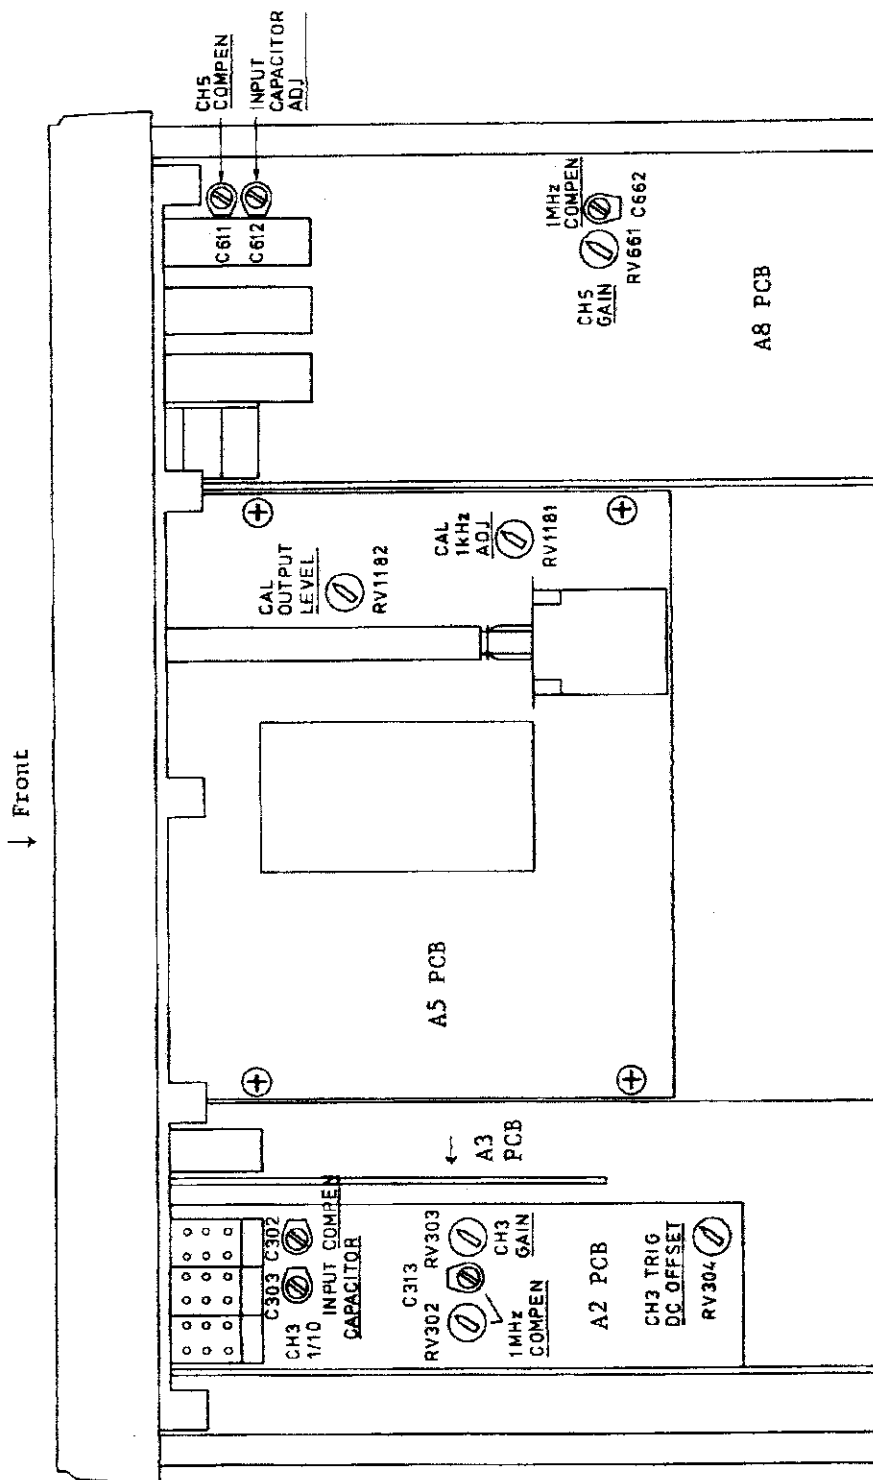

Figure 7-10 (Bottom view)
In a similar manner as is the case for "Adjustment of input ATT of CH1 and CH2," adjust C305 so that the 1/1 input capacitance becomes 20 pF  $\pm$  2 pF. Next, adjust input capacitance compensation capacitor C303 and phase compensation capacitor C302 of 1/10 ATT. (See Figure 7-10.)
For this adjustment, adjust CH3 TRIG DC OFFSET (Figure 7-10, RV304) in a similar manner as is the case for "Adjustment of CH1 TRIG DC OFFSET."
- (1) Connect the CALIB output (43) to a frequency counter.
- (2) So adjust the CAL 1 kHz ADJ (Figure 7-10, RV1181) that the frequency counter 1 kHz.
- (1) Set at 200 mVp-p the signal of the generator used for "calibration of sensitivity" of Section 7.5. Apply this signal to the CH1 input terminal.
- (2) Display the signal on the screen with an amplitude of 8 DIV by adjusting the VOLTS/DIV switch (23) and VARIABLE knob (22).
- (3) Apply the 200 mV CALIB output to the CH1 input terminal. So adjust the CAL OUTPUT LEVEL (Figure 7-10, RV1182) that the signal is displayed with an amplitude of 8 DIV on the screen in the same manner as step (2) above.